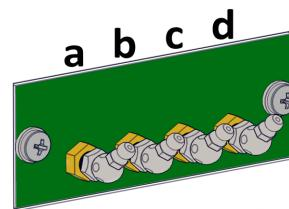

Figure 33 - Greasing Panel
1. Locate the greasing panel (Figure 33).